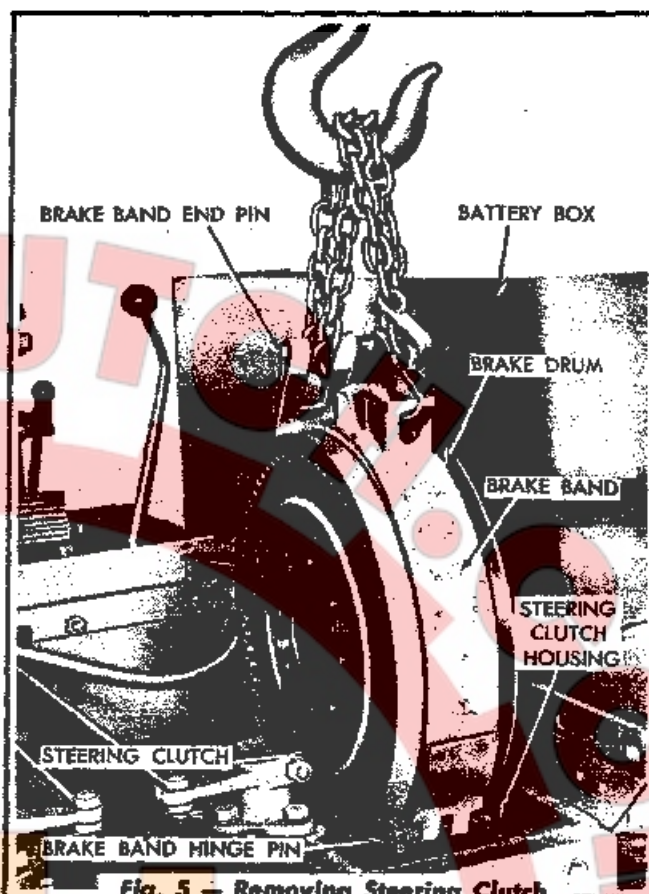

Fig. 5 - Removing Steering Clutch
- Attach a chain to the brake band, as shown in Fig. 5, and lift the steering clutch and brake drum assembly from the steering clutch compartment.